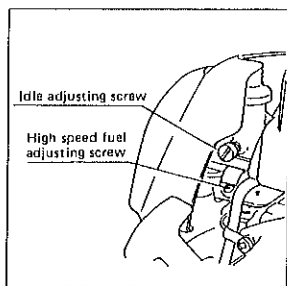

Fig. 8
- Adjust the slow speed by the idle adjusting screw. Clockwise turn will make the slow speed higher and counter-clockwise turn will make it lower. ( Fig. 8 )